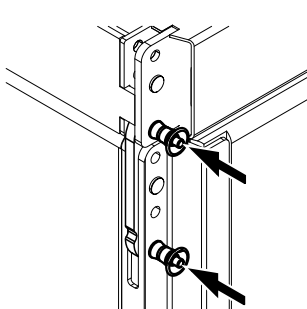

Fig. 1: SUB to Frame
- a. SUB to Frame (\Rightarrow Fig. 1)